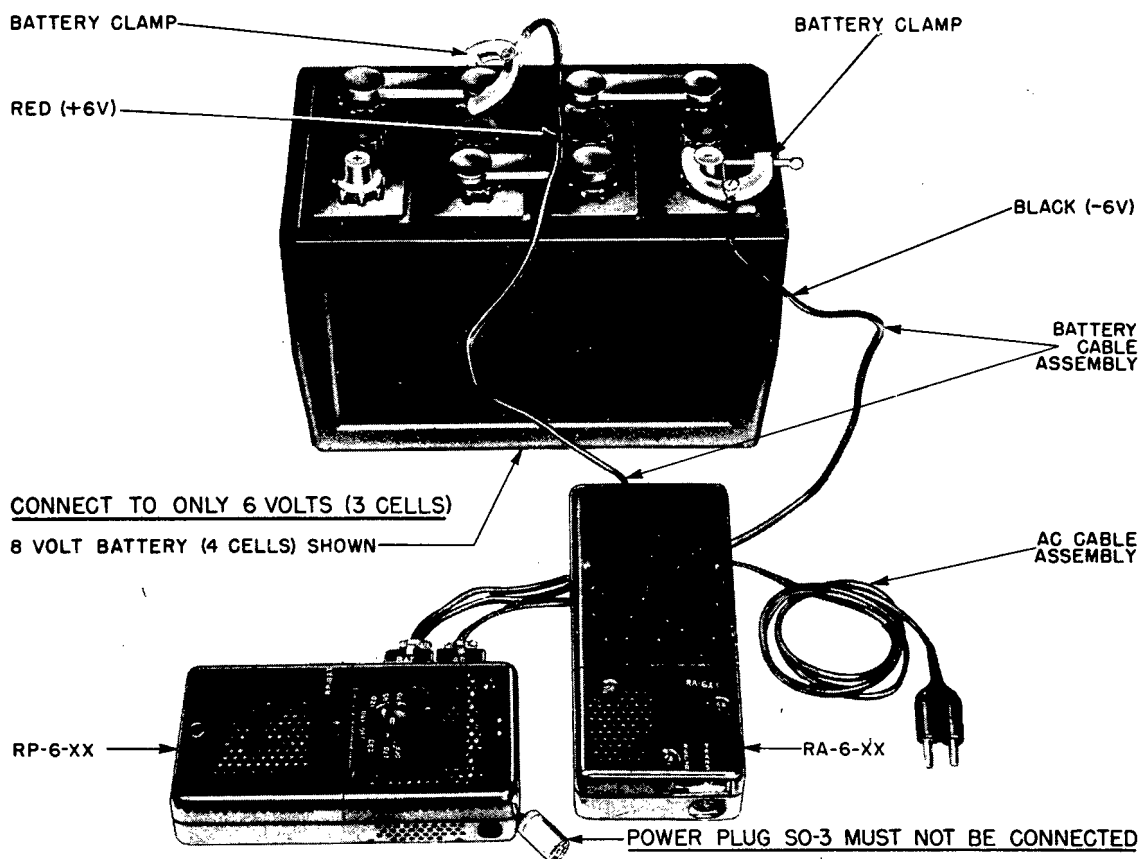

Figure 8. Radio Station RS-6-XX battery charging hook-up
(1) The charging rate is 3-1/2 amperes minimum.
(2) Battery should be charged only in a well ventilated room as dangerous gases are formed during charging process.
b. Connect equipment as follows: (See Figure 8).